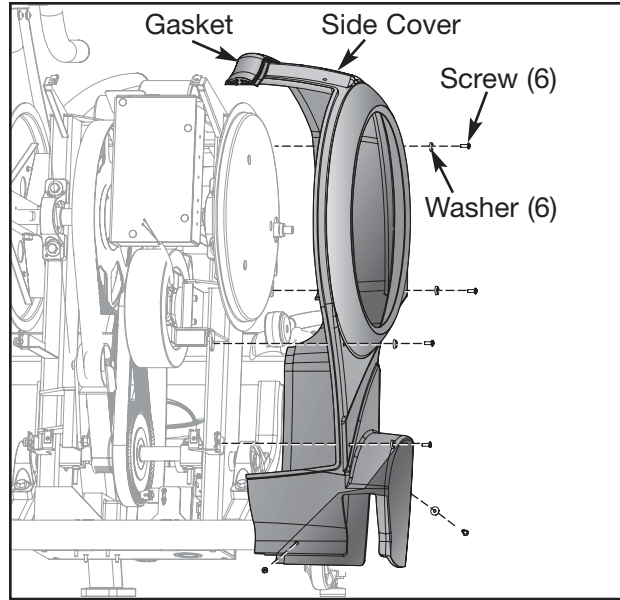

Figure 5
- A. Remove the six screws and six washers securing each side cover in place. See Figure 5.
- B. Remove both side covers. **NOTE:** The gasket will come off with one of the side covers. See Figure 5.
- B. Using a Phillips head screwdriver, tighten the six screws and six washers securing each side cover. See Figure 5.
- A. Using a Phillips head screwdriver, remove the six screws and six washers securing each side cover in place. See Figure 5.
- B. Remove both side covers. ***NOTE: The gasket will come off with one of the side covers. See Figure 5.***